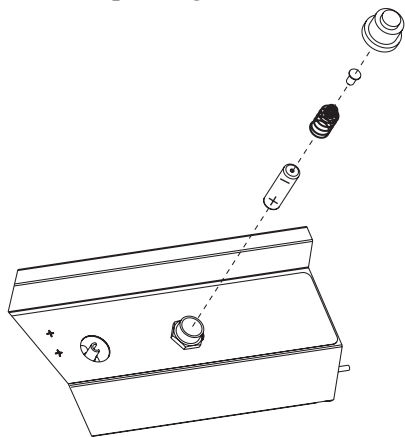

Figure 10
- Remove ignitor button and insert AA battery, positive side down, and replace ignitor button. See Figure 10.